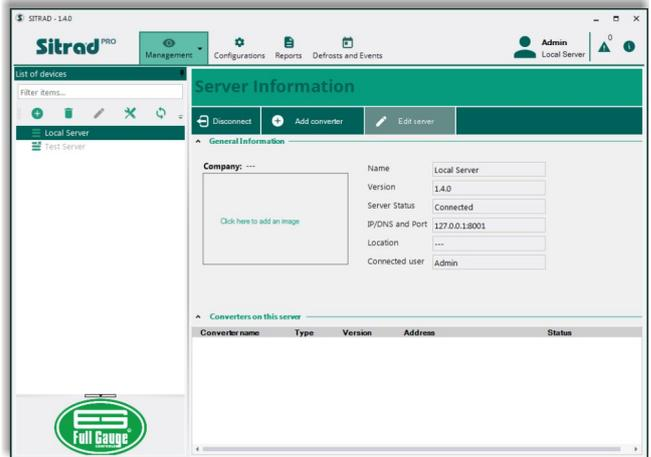

Figure 25
Step 1: Figure 25 shows the **Sitrad^{PRO}** Management screen. On the **Device List** tab on the left select the server where the converter will be installed. This server must be on the same network as the device. On the main **Server Information** tab, click the **Add Converter** button.